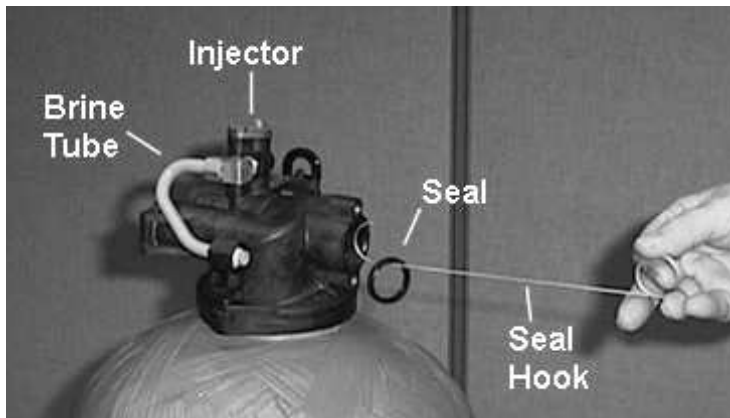

Figure 6
6. Remove the seal first using the wire hook with the finger loop (see Figure 6).